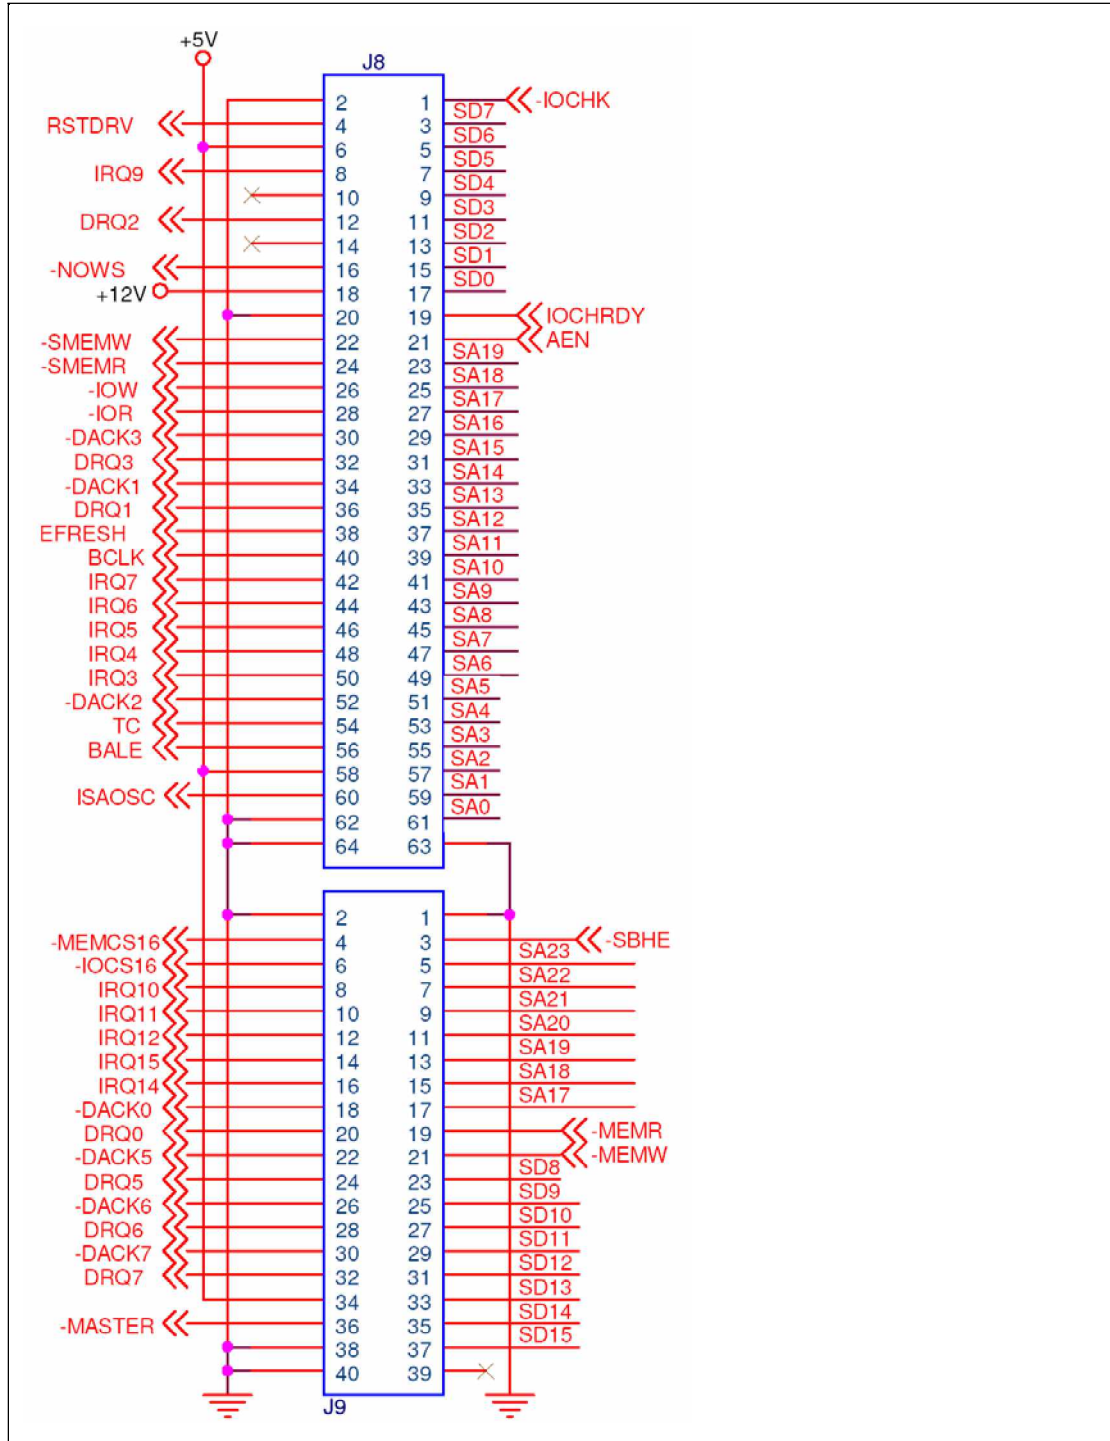

Figure 3-16: PC/104 Slot Location
- CN Location: See **Figure 3-16**